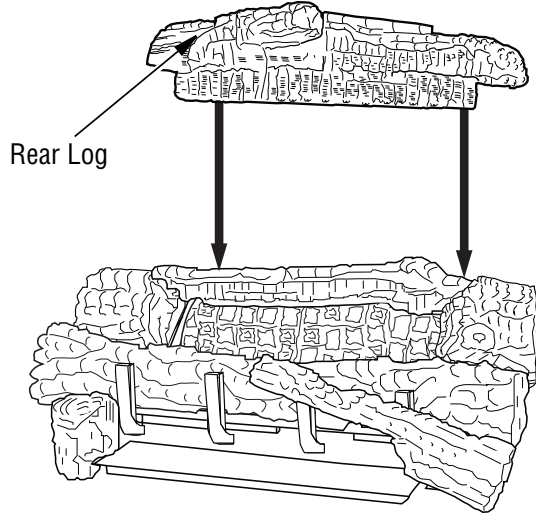

Figure 45 - Installing Rear Log
9. Rest the rear log (18" D-069, 24" & 30" D-043) on the chassis behind the rear burner as shown in **Figure 45**. The bottom of the rear log will sit into the rear log supports.